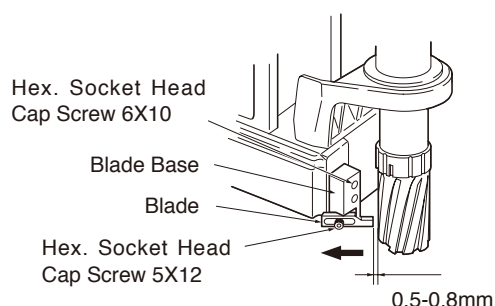

Fig. 31
#### (1) Mount Blade Base. (Fig.31)